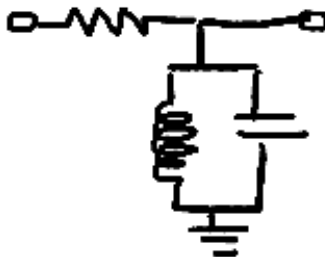

Figure 5: A bandpass RLC filter
- design and build an LC band-pass filter (Figure 5) tuned to 1 MHz